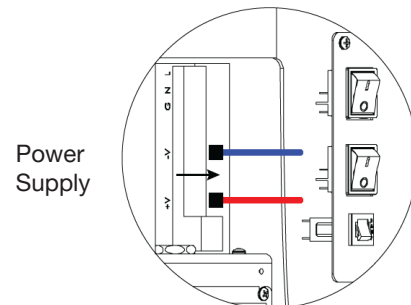

Figure 38. Disconnect DC Power Supply Wires
6. For solar installations, remove the power switch mounting plate and disconnect the red (+V) and blue (-V) wires from the power supply. Tape or wire nut the ends separately to prevent shorts (Figure 38).
3. Remove the power switch mounting plate and disconnect the DC wires from the power supply. Tape or wire nut the ends separately to prevent shorts (Figure 38).